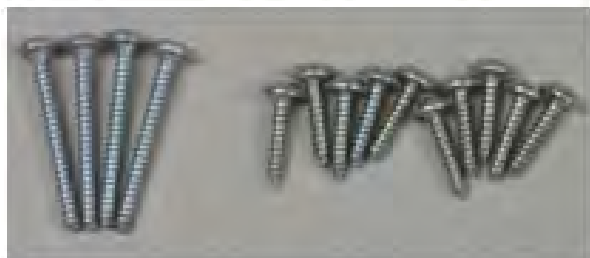

Figure 1
2. Remove 4 screws (long) across top of door and 8 to 10 screws (short) on the sides, see figures 1 and 2.